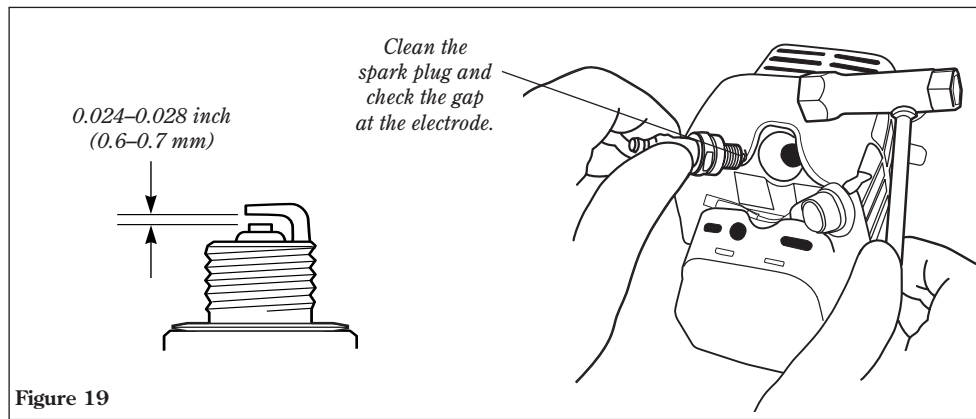

Figure 19
- Remove and clean the spark plug. Adjust the spark plug electrode gap to 0.024-0.028 inch (0.6-0.7 mm). If the spark plug must be replaced, use only an NGK BPMR6A or equivalent resistor type spark plug of the correct heat range. See Figure 19.